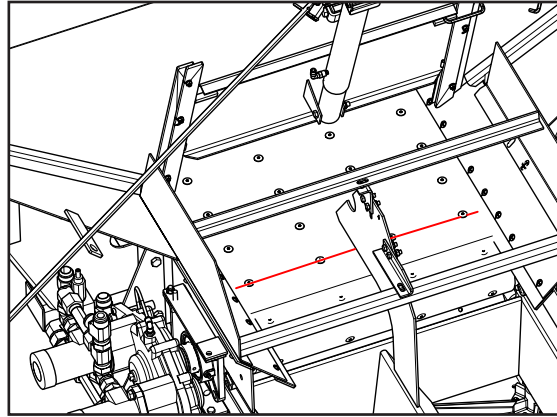

Figure 8
11. Figure 8 - Center the front of the Hillside Divider by measuring from the divider panel to the point of contact between the shield and the conveyor on each side. Measurements should be equal.